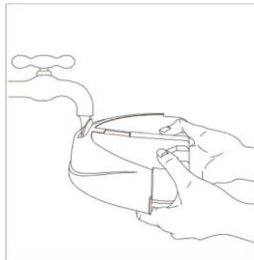

Figure10
2. Open the Water Inlet Cover and drain the water tank with low hardness water (up to 7dH) (Figure 10).